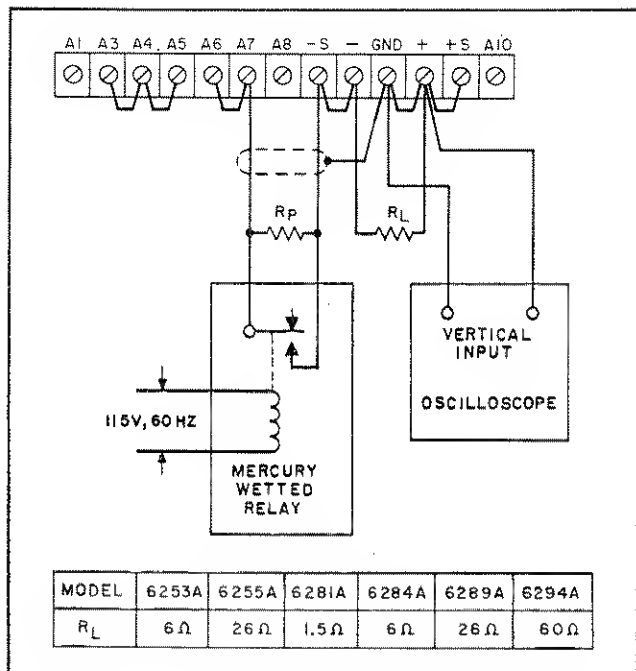

Figure 5-10. Constant Voltage Programming Speed, Test Setup
5-32 Programming Speed. This measurement is made by monitoring the output voltage with an oscilloscope while rapidly changing the remote programming resistance. For up-programming, the remote resistance is varied from zero ohms to the value that will produce maximum output voltage; and for down-programming, the remote resistance is varied from the value that will produce maximum output voltage to zero ohms. To check the up-programming speed, make the connections indicated in Figure 5-10; for down-programming, simply remove R_L .
1. Restrap the rear barrier strip as indicated in Figure 5-10. Note that the jumper between +S and A10 is removed. This disconnects the output capacitor C20 to increase the programming speed. A minimum amount of output capacitance (C19) is permanently wired to the output and should not be removed, because the supply could oscillate under certain load conditions. The programming speed increases by a factor of from 10 to 100 when the output capacitor C20 is removed.
2. Connect the relay, oscilloscope, and programming resistor R_p as illustrated in Figure 5-10. Select the value of the programming resistor that will produce maximum output voltage of the supply. This value is obtained by multiplying the programming coefficient (200 ohms/volt, 300 ohms/volt for Model 6294A) by the maximum rated output voltage of the supply.
4. The time (T) required for the output voltage to change from zero volts to maximum rated output or from maximum rated output to zero should be less than 10 milliseconds.